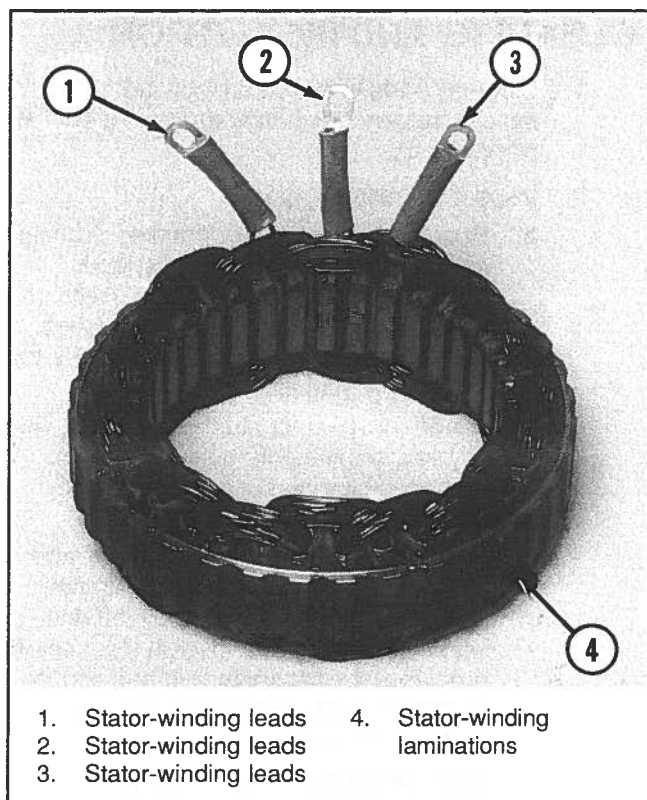

Figure 6-103. Testing Stator
1. Test stator (Figure 6-103) for grounds using ohmmeter set on Rx1 scale as follows:
- a. Connect one lead of ohmmeter or test lamp to one of the stator leads (1, 2 or 3) and the other lead to stator frame (4). Be sure that lead makes good contact with frame.